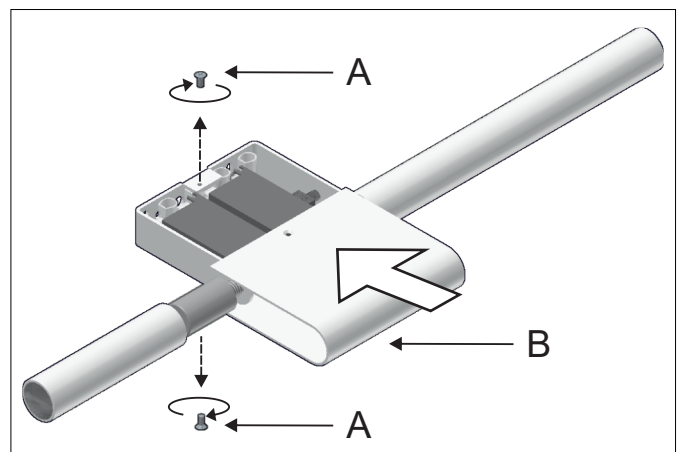

Figure 7
7 - Put the cover plate (B) back in place and fix it with the screws (A). Figure 7.